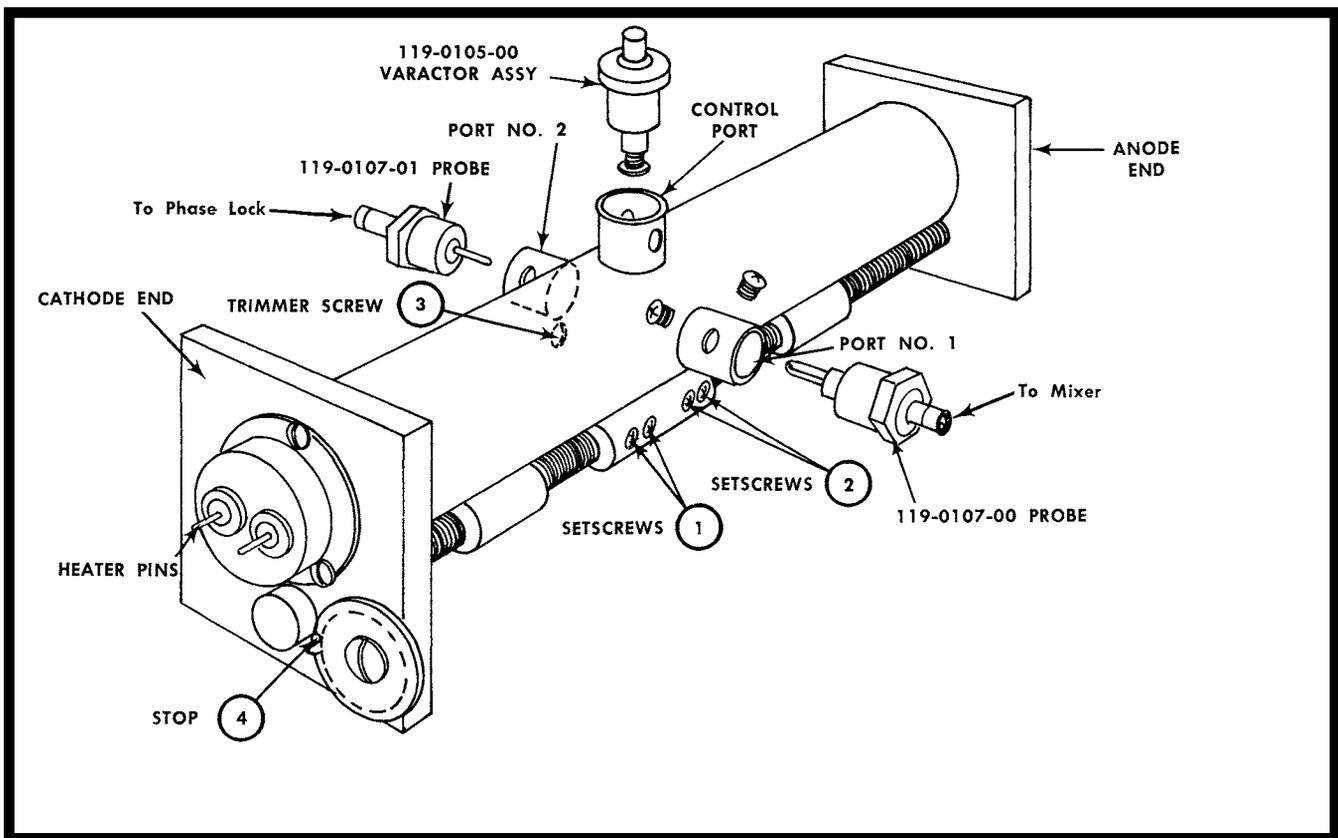

Fig. 6-49. Band C Assembly Alignment Diagram.
Refer to Fig. 6-49 for the location of the sub-assemblies and parts. The oscillator assembly must be removed for
This procedure should be used only after replacing the oscillator tube. Refer to Fig. 6-49 for the location of sub-assemblies and parts. The oscillator assembly must be removed for calibration.
a. Install probe assembly (Part No. 119-0107-01 into the No. 2 port Fig 6-49). Position the probe assembly approximately  $\frac{1}{16}$  inch out from full penetration with the notch or keyway (DC return of the probe) towards the plate end of the oscillator assembly, and secure by tightening one of the two set screws.
b. Install probe assembly (Part No. 119-0107-00) into the No. 1 port (Fig. 6-49). Position the probe assembly approximately  $\frac{1}{16}$  inch out from full penetration with the notch or keyway towards the plate end of the oscillator assembly, and secure by tightening one of the two set screws.
i. Loosen the set screws (1) in Fig. 6-49, and position the plate choke for a frequency of 4.2 GHz.
j. Loosen the set screws (2) in Fig. 6-49, and position the cathode choke for maximum power output. Decrease probe coupling if power output exceeds 100 mW.
b. Tune the dial to indicate 1.5 GHz. Adjust the trimmer screw (3) in Fig. 6-49, for an oscillator frequency of 1.7 GHz.
c. Install pinion gear so bent tooth of the spur gear makes contact with the set screw (4) Fig. 6-49, then tighten the set screw in the pinion gear.